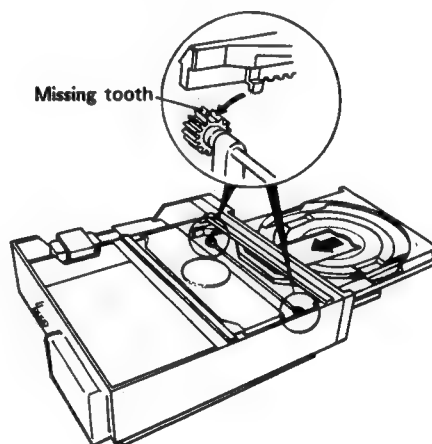

Fig.8
1. Insert the tray after aligning the disc tray tooth with the missing tooth section of the gear. (Fig.8)